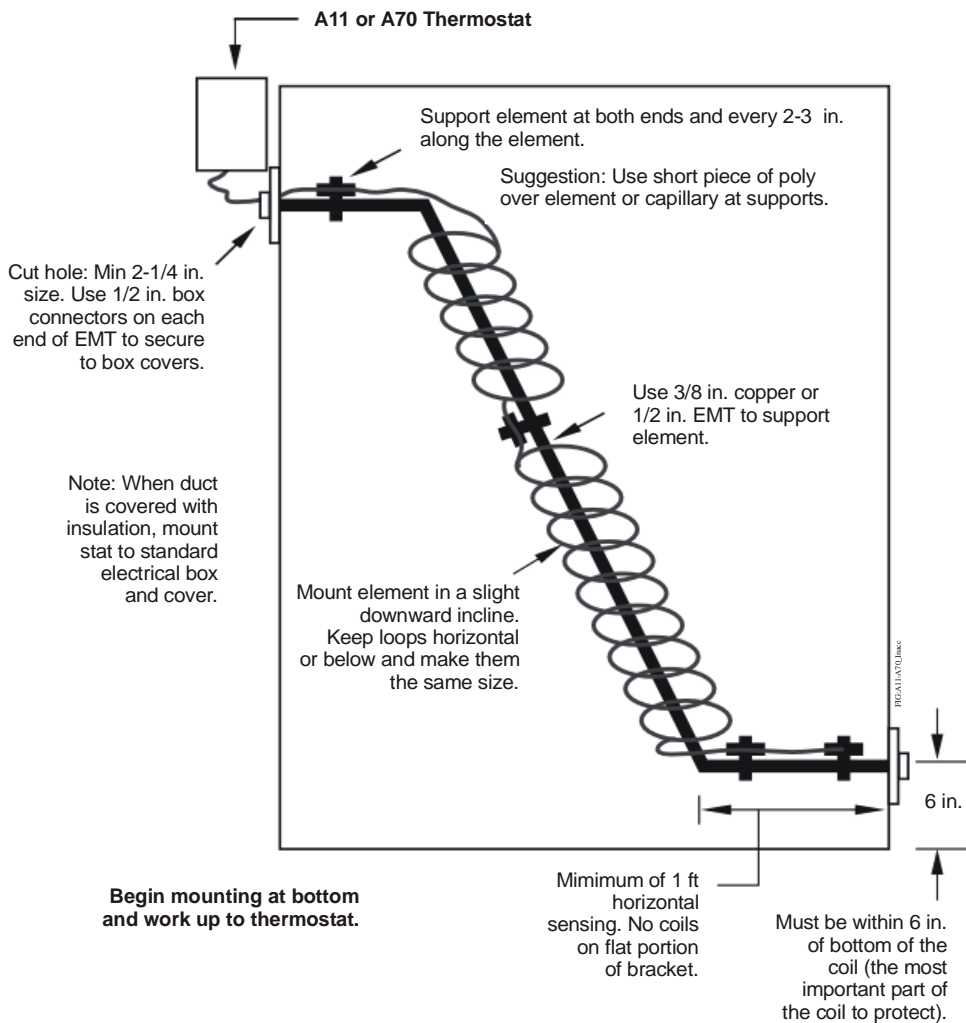

Figure 5: Mounting Low Temperature Cutout Controls in Small Ducts with Inaccessible Coils
2. Using Figure 5 as a guide, measure the duct and calculate the required length and height of the element support.
4. Starting at the bottom of the coil, distribute the sensing element around the support and tie-wrap it securely in place. Keep the loops horizontal or inclined slightly downward (not to exceed 5°) and uniform in size (see Figure 5).